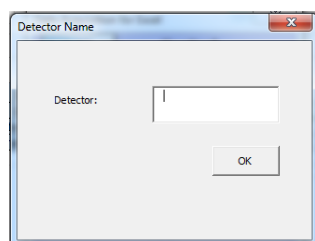

Figure 3.3: QC3 detector ID window.
- 425 6. Enter the ID of the detector under test in the new window (Fig. 3.3) and
6. Enter the ID of the detector under test in the new window (Fig. 3.3), for example: *GE11 – VII – L – CERN – 0001*. Then press *OK*